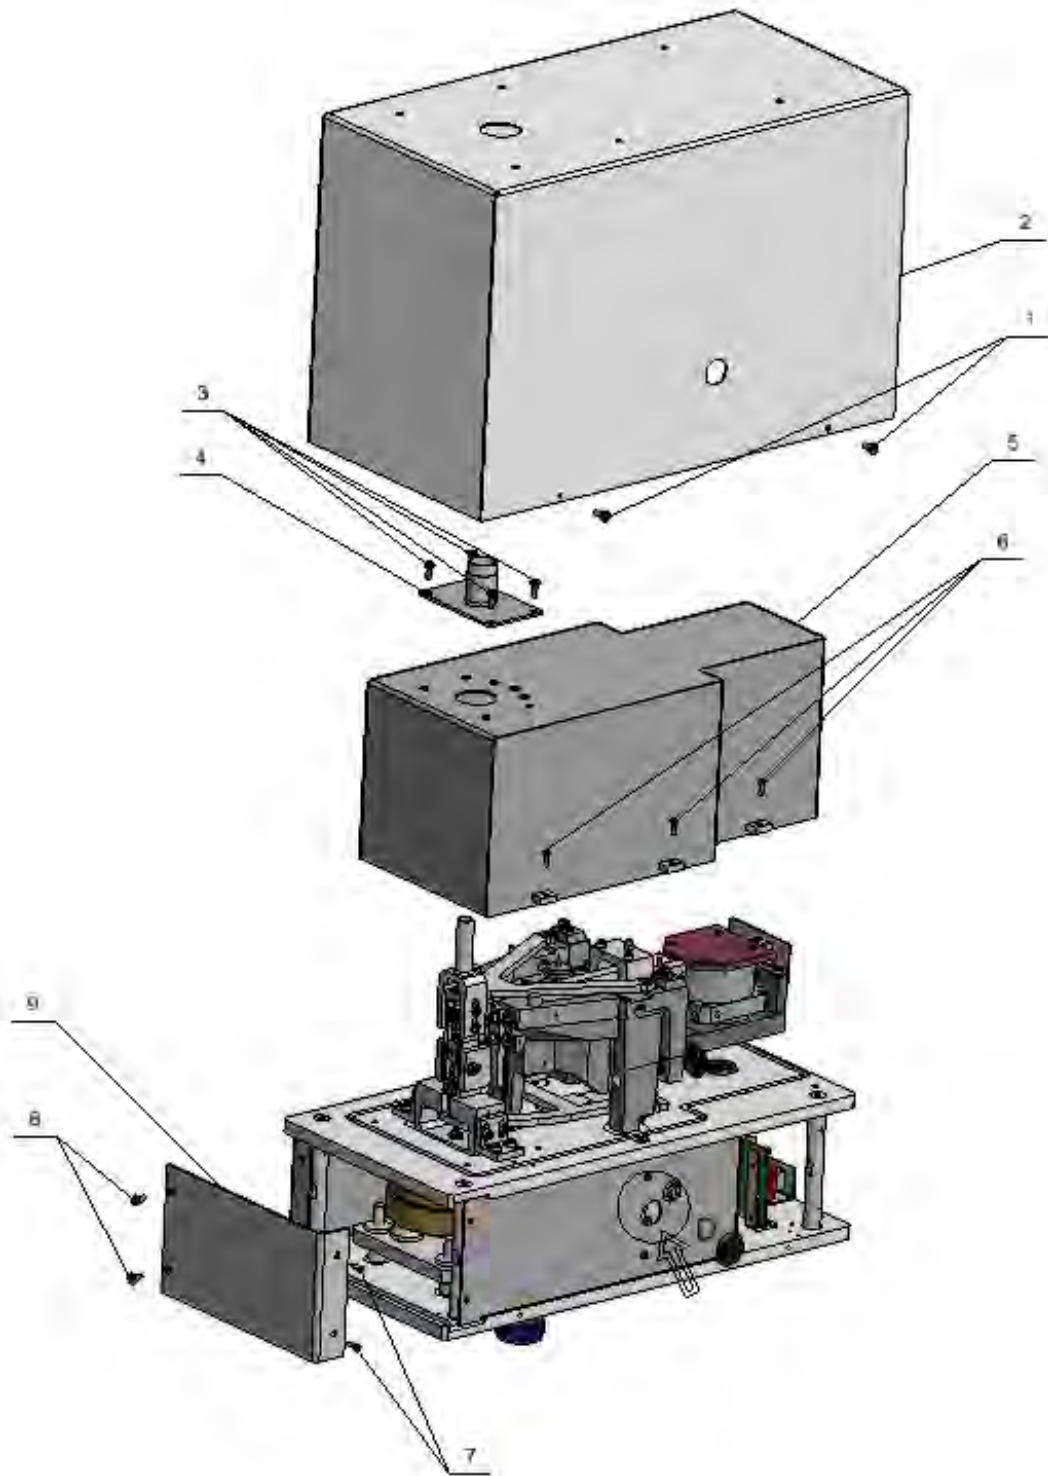

Fig. 1
1. Undo four M4 screws (1) located on both sides of the housing (2). (Fig. 1)
2. Carefully remove the housing (2). (Fig. 1)
3. Undo four M4 screws (3). (Fig. 1)
4. Remove pan shield assembly (4). (Fig. 1)
5. Undo six M3 screws (6) located on both sides of mechanism shield assembly (5). (Fig. 1)
6. Carefully remove the mechanism housing (5). (Fig. 1)
7. Undo two M3 screws (7), and two M4 screws (8). (Fig. 1)
8. Remove lid assembly for ballast mechanism shield (9). (Fig. 1)
9. Remove hole plug covering the hole presented in figure showing detail D. (Fig. 1)